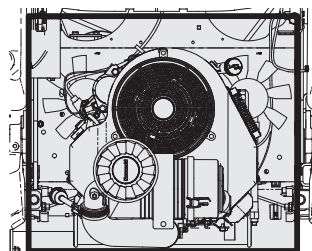

Fig. 31
- Clean around the exhaust manifold, fuses, all wiring and harnesses, muffler pipe, muffler shield, engine intake screens and cooling fins, etc (Fig. 31).